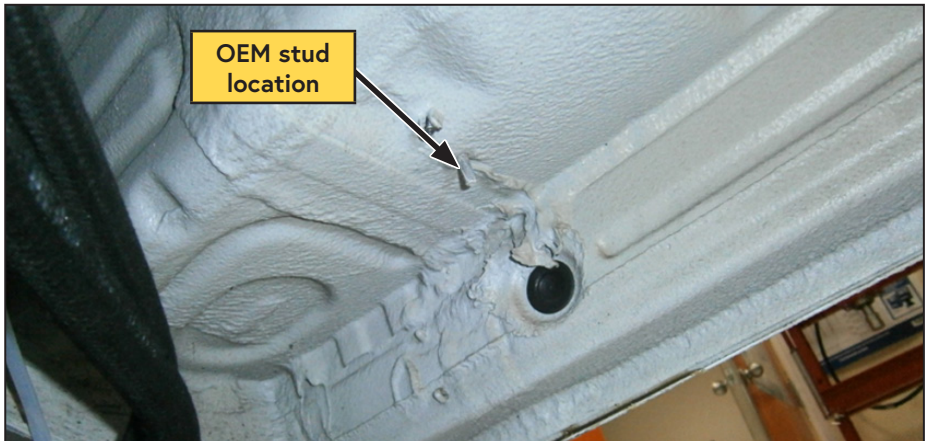

Figure 42 — Hose routing
- Locate the M6 OEM stud on the driver side of the underbody (approximately 8 inches in front of the fuel filler) (Figure 42).